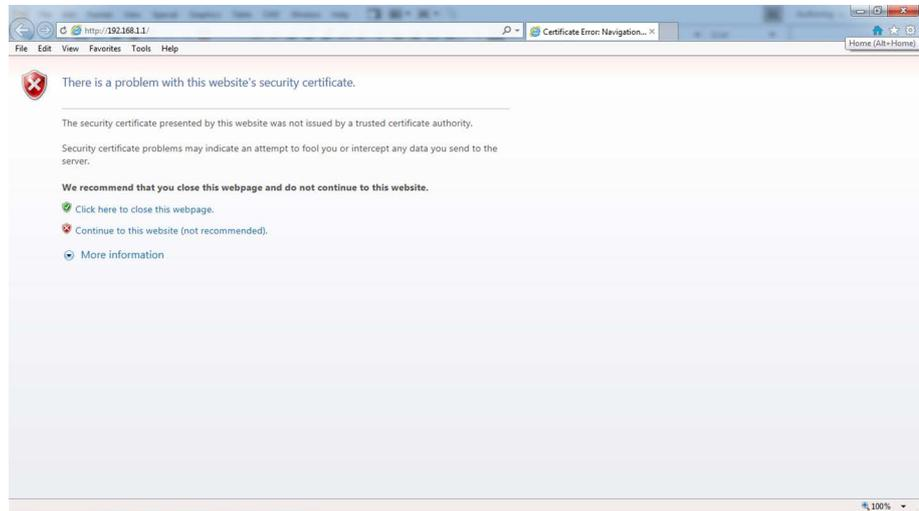

FIGURE 1-8
- a) Enter the IP address of the CIU 888 (i.e. <https://192.168.1.1>) in the address bar of the browser. Next, press the **Enter** key. The following warning is displayed (see FIGURE 1-8).